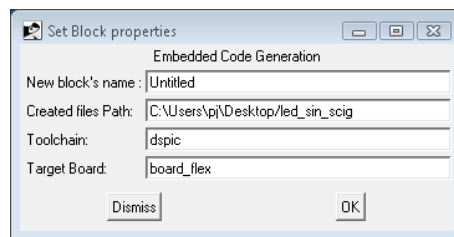

Figure 5.18: The EmbCodeGen dialog box.
2. A window appear, like the one in Figure 5.18. You can specify the directory where all the files will be created by modifying the `Created files Path` textbox. Please leave the other options unchanged.
Finally, specify the new template when generating the code in the `Template` textbox in Figure 5.18.